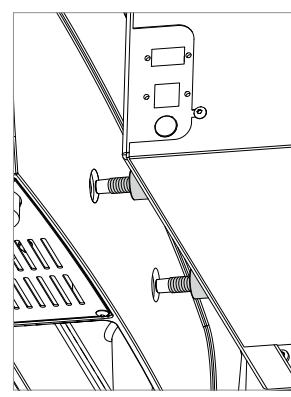
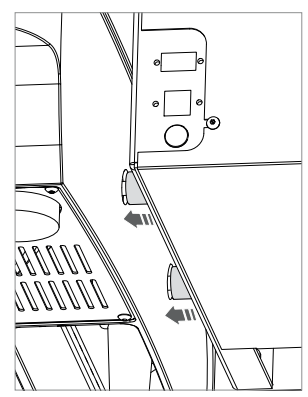

Fig. 32
Fig. 33
- 2) Move the feeder unit to the machine, insert the 2 pins into the threaded holes and then the bushings in the seat (counterbore) of the machine base (Fig. 32 and Fig. 33).